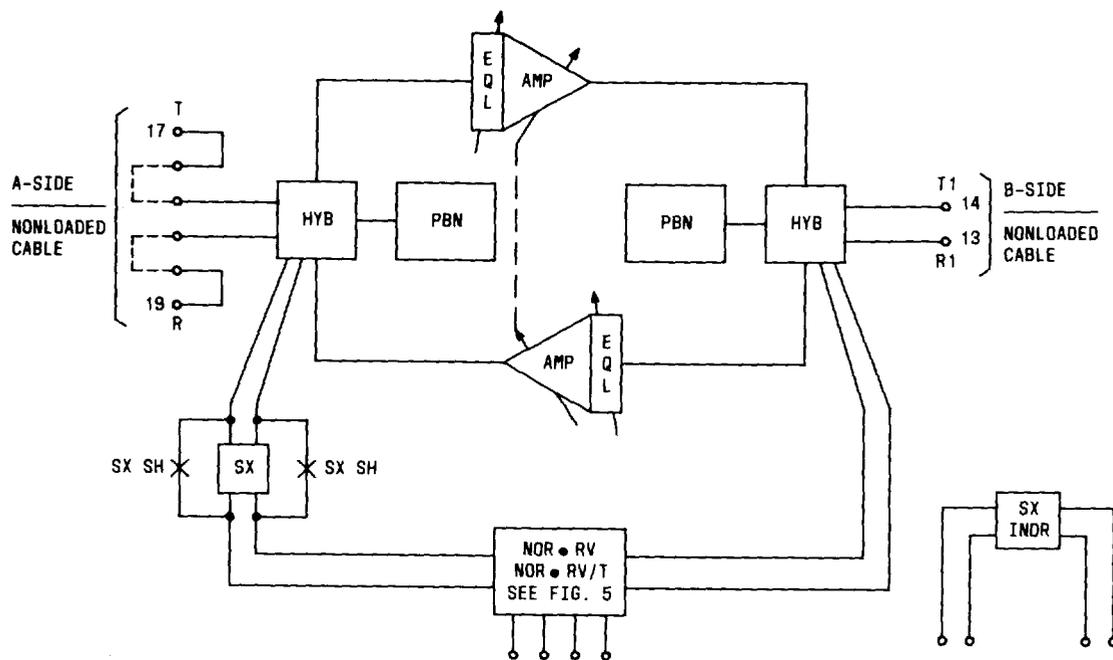

Fig. 7—Block Diagram of the 2-2 Intermediate (NL-NL) Repeater J99343PD,L3
3.01 The J99343PD, L3 is shown in Fig. 6. It provides gain and equalization on 2-wire circuits between two nonloaded facilities. Figure 7 shows a block diagram of this unit.